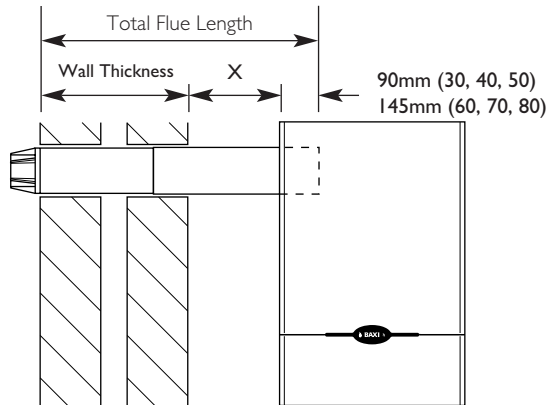

Fig. 47
3. To make up the total flue length, add 90mm (30, 40, 50 models) or 145mm (60, 70, 80 models) to the **Wall Thickness + X** dimension (Fig. 47):